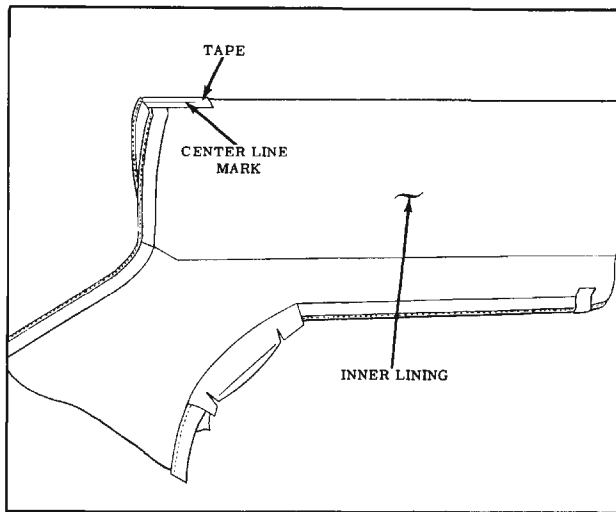

Fig. 16-129 Marking Top Assembly
25. Fold new top material in half so that inner lining of top material is exposed. (Fig. 16-129) Install a 6" piece of tape on inner surface at centerline fold of new top material. (Fig. 16-129) Using a pencil, mark the approximate centerline of new top material along entire length of tape.